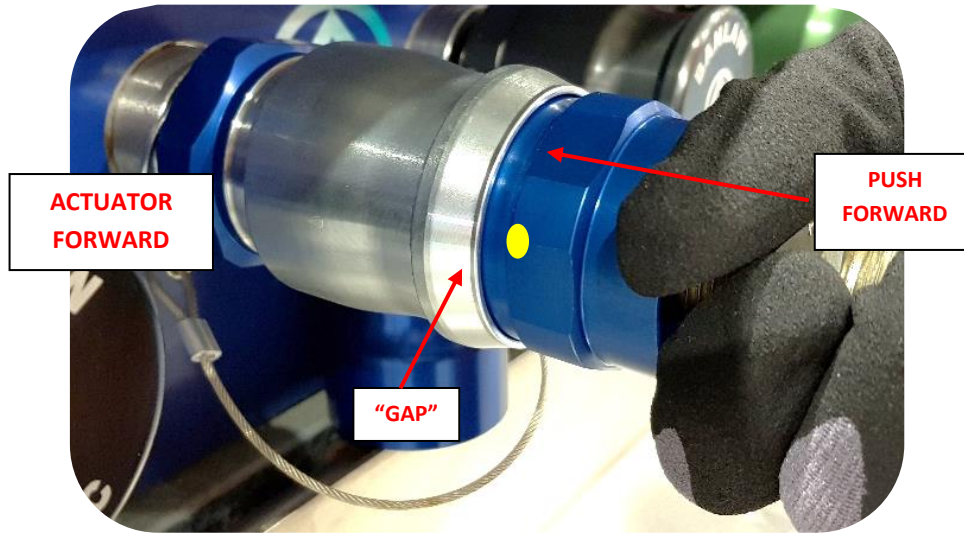

Figure 7 – “Push to Connect” - Couplers Connected
10. The ball lock mechanism is engaged once the Actuator moves into the fully forward position, creating a “gap” (clearance) between the rear of the Actuator and the Nozzle tail – refer Figure 7.